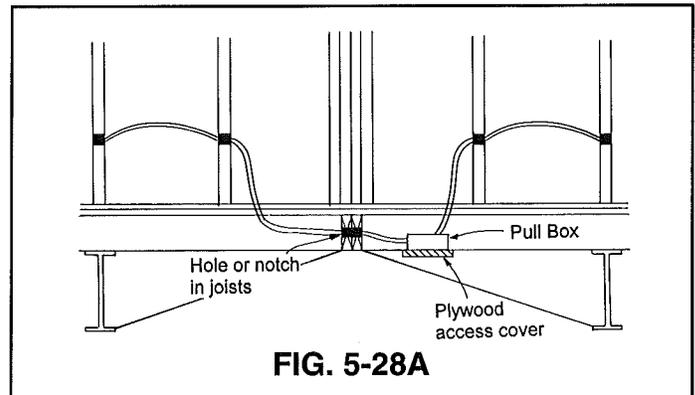

FIG. 5-28A
1. Remove plywood access cover to pull box and cut bottom board on opposite half for access to wires (See Fig. 5-28A).